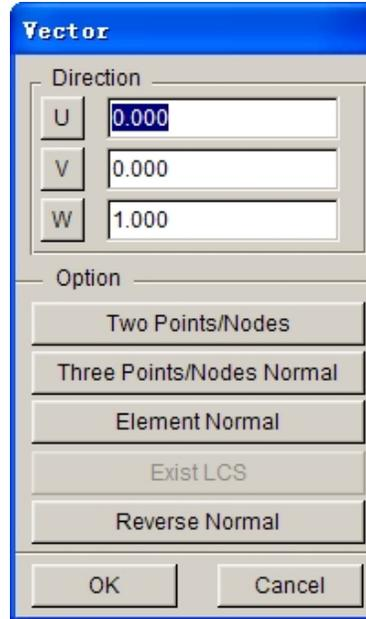

Figure 10.6.3 Vector dialog box
**AXIS DIRECTION** –This function enables the user to specify direction of extrusion for the locator pin. After the location is defined, a highlighted arrow is displayed on the specified location denoting the direction of extrusion. The default orientation is the global +Z direction or the previously defined direction. The user can edit direction of extrusion by hitting DIRECTION button. The VECTOR dialog box illustrated in Figure 10.6.3 is displayed to enable modification of direction of extrusion.